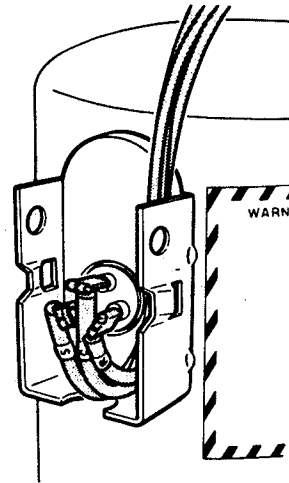

Figure 65. Compressor Connections
2. Identify and remove the three wires from inside the compressor electrical box (Fig. 65).